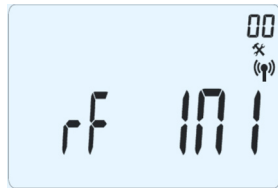

Fig. 20
- 1) *press and hold down the edit button (▶) for 5 sec. The screen for the first parameter will appear and will be displayed as in Fig. 20.*